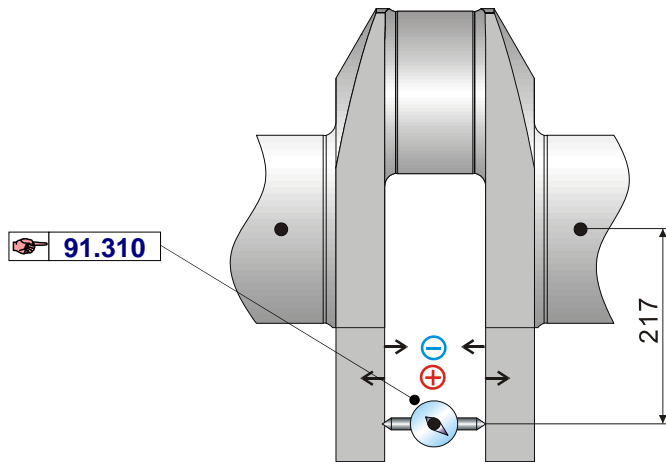

Fig.1 Installation of dial gauge (다이얼 게이지의 설치)
1. Mount dial gauge between two crank webs of last cylinder nearest flywheel as shown in fig.1